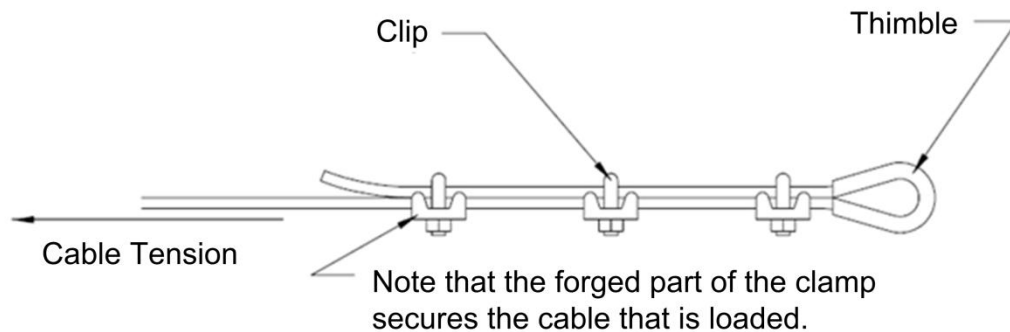

Figure 9.2
Guy wires should be as tight as possible pulling by hand. Six inches of side-to-side slack at the end of the lift pole is acceptable. Three cable clamps shall always be used to secure each end of the guy cables. Be sure that the forged side of the cable clamp is used on the cable that is under load (see Figure 9.2).
- You should have around five feet of cable on each end to make the connections with the cable clamps. Again, be sure that the forged side of the cable clamp is used on the cable that is under load (see Figure 9.2).
- Attach the side and rear wires securely as shown in the drawing with three clamps on each wire. Use 30 ft-lb. of torque on each nut. It is important (for good strength) that the saddle part of each clamp is on the loaded (tower) side of the guy wire (see Figure 9.2).